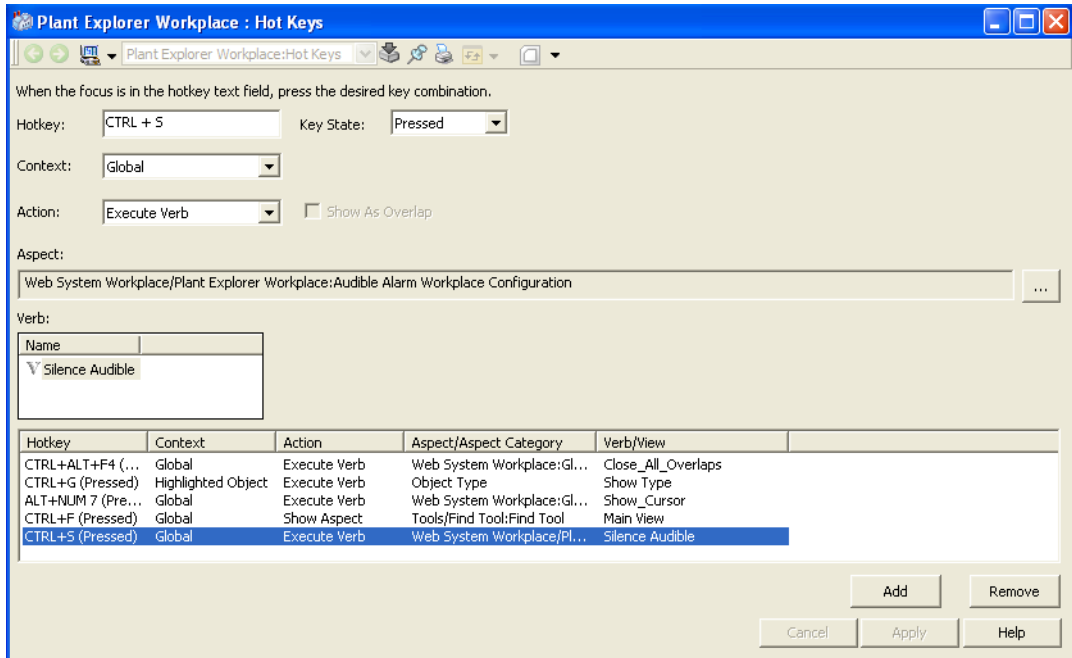

Figure 30. Hot Key Aspect
3. Select hot key combination in the **Hotkey** text field. See Figure 30.